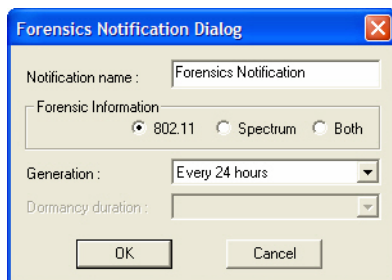

Figure 13-18: Configuring forensics notification
- 1) From the AirMagnet Policy Notification List, check the Forensics radio button. The Forensics Notification dialog box appears. See Figure 13-18.